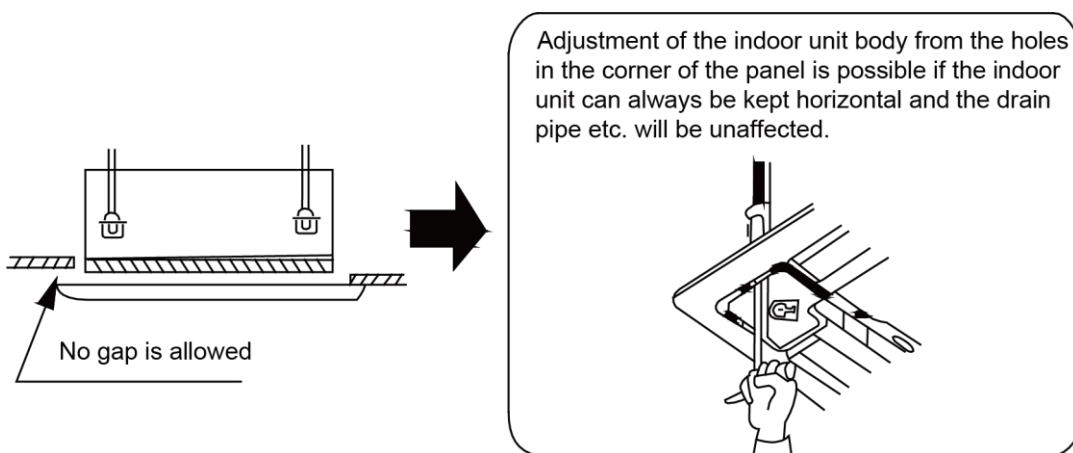

Figure 3-1-47
- (8) If gap still exists between ceiling and decoration panel after tightening the screws, readjust the height of the indoor unit. (Figure 3-1-47)